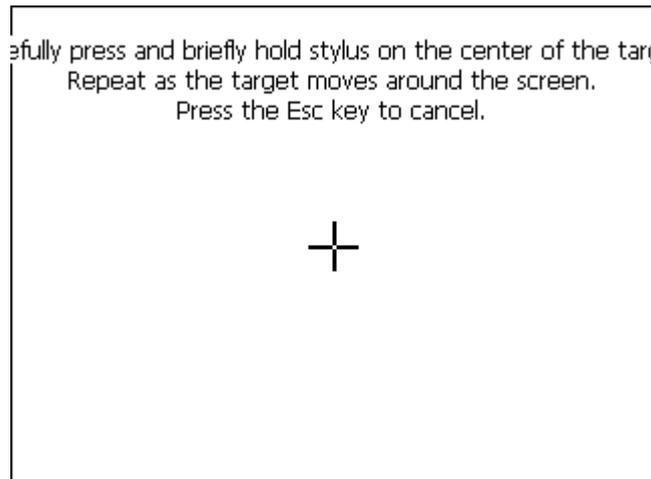

Figure 4.1
2. Make the power SWITCH be ON state, WinCE system will be booted. Enter WinCE 6.0 system, TFTLCD will first display calibration touch screen as shown in Figure 4.1.